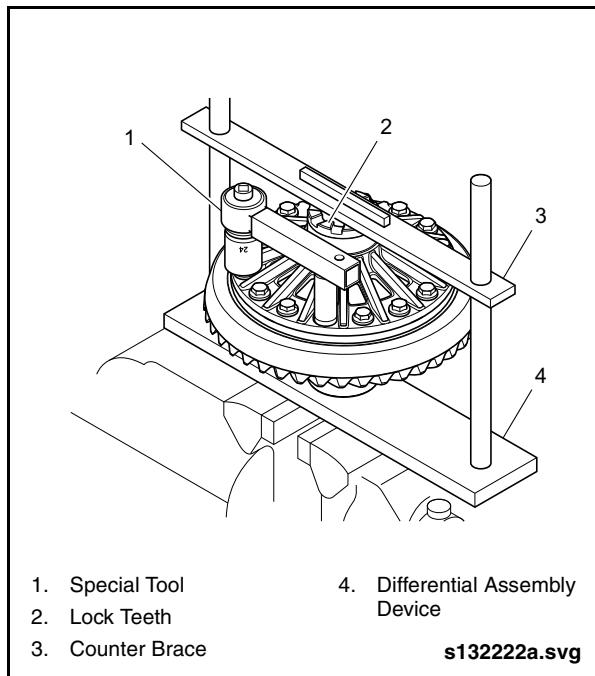

Fig. 2-66: Installing Special Tool
6. Install special tightening tool onto mounting bolts. *See "Fig. 2-66: Installing Special Tool" on page 58.*